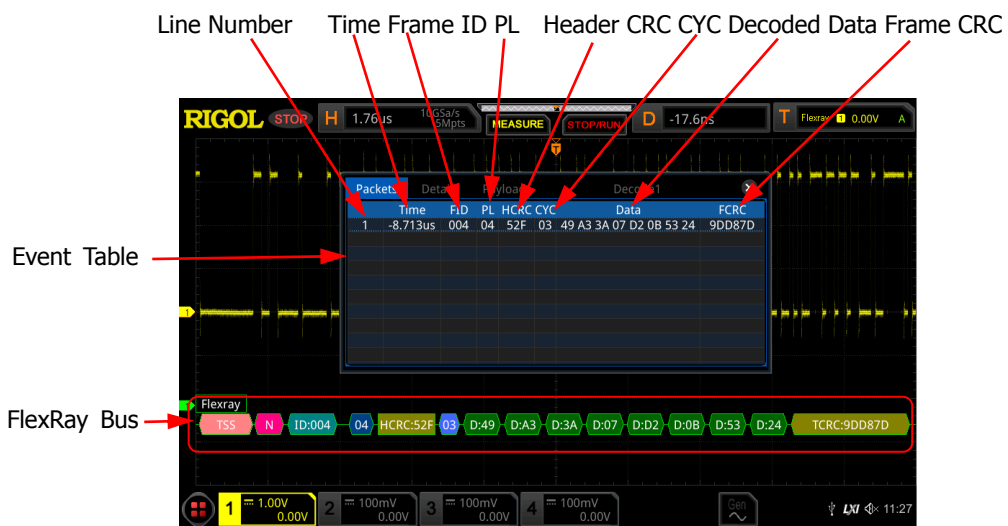

Figure 11-13 FlexRay Decoding Event Table
- Open or close the event table: Click **Event Table** continuously to enable or disable the event table. When you enable the event table, the following figure is displayed, as shown in Figure 11-13. You can also click on the icon  at the upper-right corner of the table to close the event table. Besides, when the operating status is "STOP", you can select a specified line and view the corresponding decoding information.